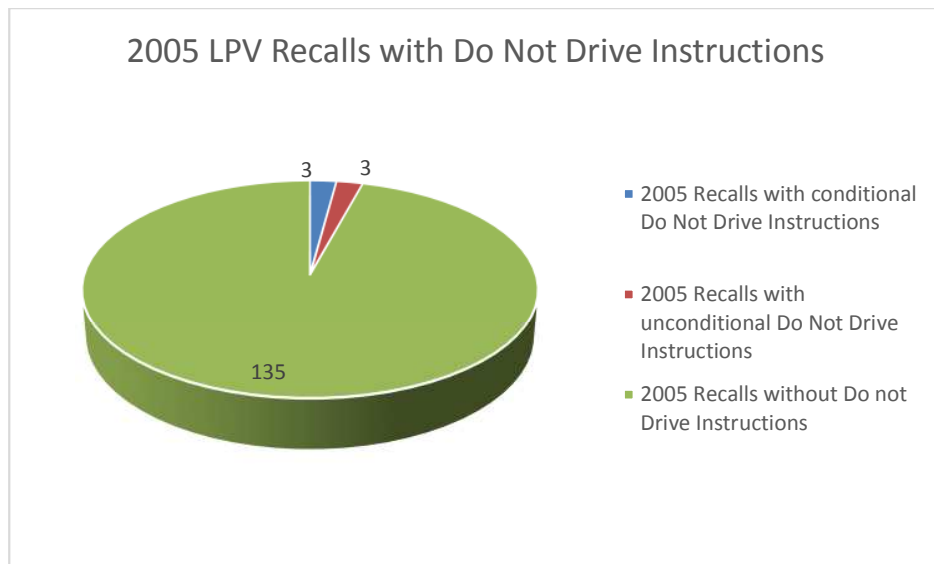

Figure 9. 2005 LPV Recalls with Do Not Drive Instructions
Six (6) of the one hundred forty one (141) 2005 LPV recalls contained DND instructions. Three (3) of those DND instructions were conditional upon owner detection of a defect. Three (3) recalls had an unconditional “do not drive” vehicle recommendation. In the graph in figure 9 these three recalls are counted and categorized as recalls with “unconditional” DND instructions. For the text detailing the DND instructions for the 2005 LPV recalls see Appendix A-9.